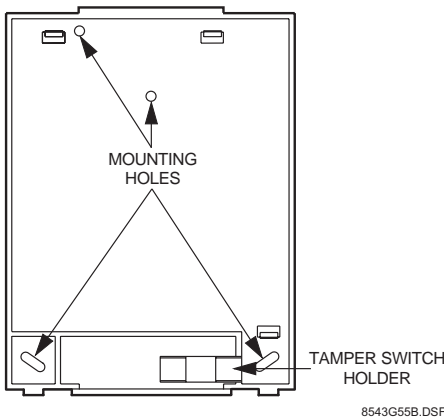

Figure 3. Mounting Holes
3. Place the back plate on the wall and mark the mounting holes (Figure 3).
3. Place the back plate inside the cabinet and secure it with three self-threading screws (Figure 3).
The tamper switch holder is located at the lower-right side of the back plate (Figure 3). The plastic cover holds the magnet.